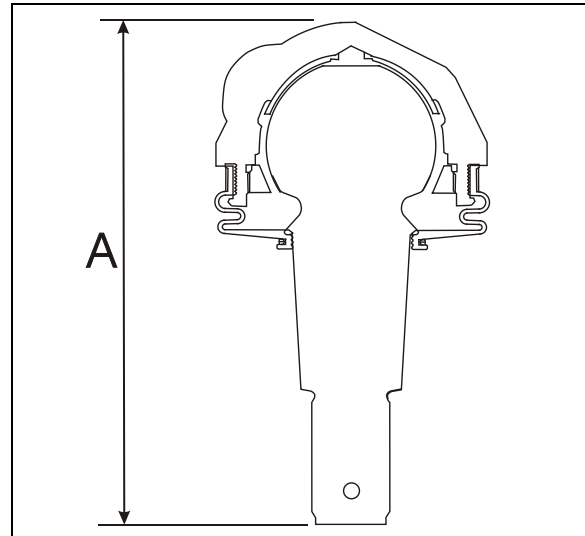

FIGURE 30: UPPER A-ARM CENTRAL BALL JOINT 16116
2. Using a caliper, measure dimension A on figure 30.